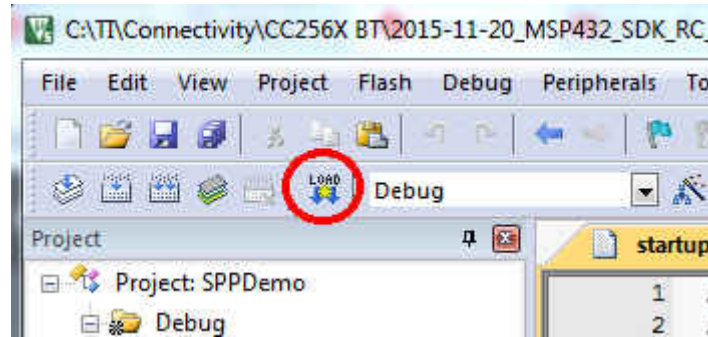

Figure 6-12. LOAD Button
- a. Press the LOAD icon to start loading the profile on the MSP432 device (see Figure 6-12).